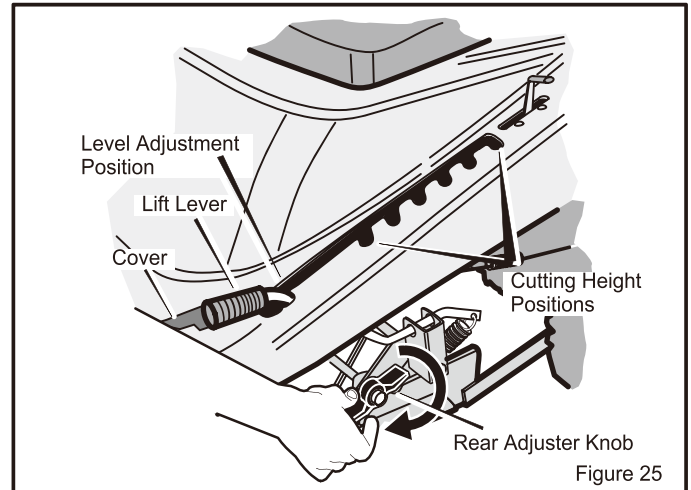
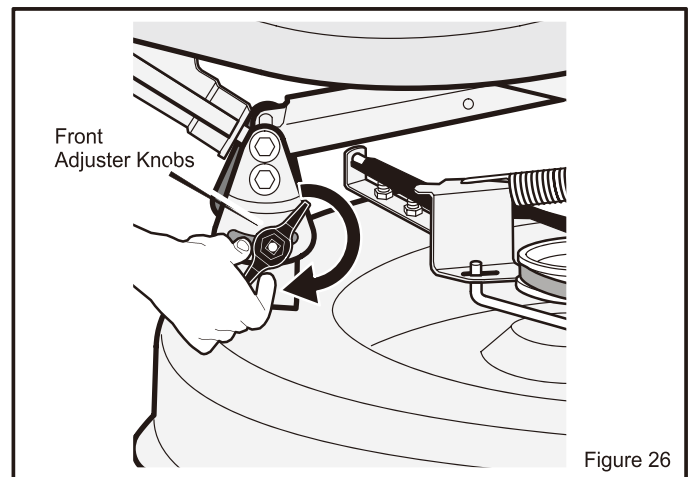

Figure 25
Figure 26
3. Open the **cover** (see Figure 25).
4. Move the **lift lever** to the LEVEL ADJUSTMENT position (see Figure 25).
5. Loosen the front and rear **adjuster knobs** (see Figure 25 and Figure 26). Make sure both sides of the mower housing are setting on a flat surface. Also, make sure the lift links and adjuster plates are loose and can easily move up or down.